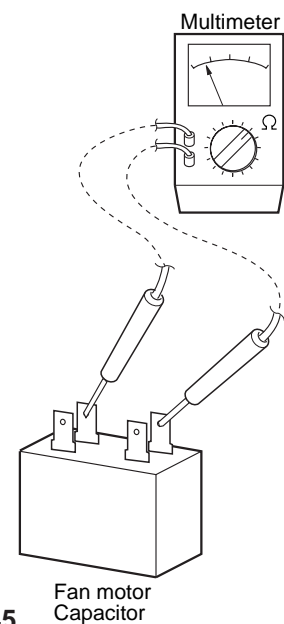

Fig. 45
⑤ **Fan motor capacitor ..... Both in indoor and outdoor unit**
- Remove the lead wires from the capacitor terminals, and then place a probe on the capacitor terminals as shown in **Fig. 45**. Observe the deflection of the pointer, setting the resistance measuring range of the multimeter to the maximum value.